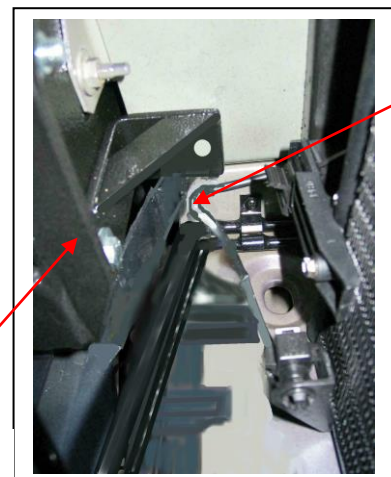

Figure 12 – Drivers side shown.
10. Position steel support brackets behind steel mounting brackets. Use 3/8 x 1 1/2 bolts, nuts and washers (supplied). **See figure 12.** Ensure support bracket is hard against chassis. **TIGHTEN TO STEEL MOUNTING BRACKETS. NOTE:** Insert bolt from inside. **NOTE:** Cross 8/Avemtra support bracket for passenger side has cut out to fit around towing bracket chassis support. **See figure 13.**